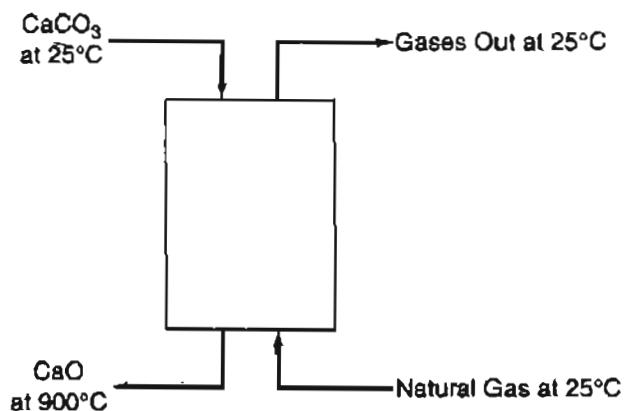

Figure P31.5
- 31.5 Limestone (CaCO_3) is converted into CaO in a continuous vertical kiln (see Figure P31.5). Heat is supplied by combustion of natural gas (CH_4) in direct contact with the limestone using 50% excess air. Determine the kilograms of CaCO_3 that can be processed per kilogram of natural gas. Assume that the following average heat capacities apply: